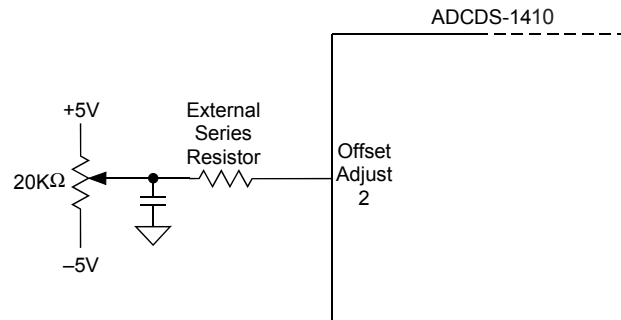
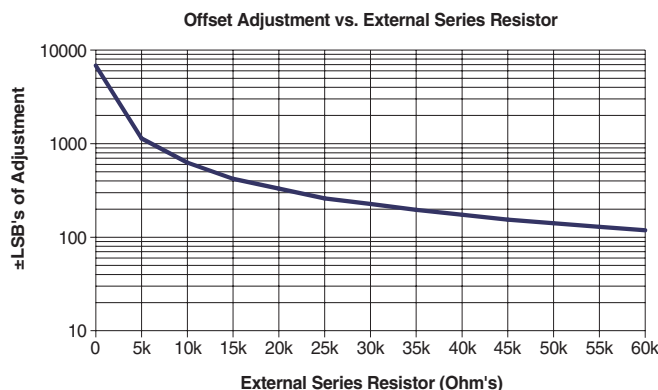

Figure 3. Offset Adjustment Circuit
Figure 6. Offset Adjustment vs. External Series Resistor
- If using the suggested offset and gain adjust circuits (Figure 3 & 5), place them as close to the ADCDS-1410's package as possible.
Manual offset adjustment for the ADCDS-1410 can be accomplished using the adjustment circuit shown in Figure 3. A software controlled D/A converter can be substituted for the 20K $\Omega$  potentiometer. The offset adjustment feature allows the user to adjust the Offset/Dark Current level of the ADCDS-1410 until the output bits are 00 0000 0000 0000 and the LSB flickers between 0 and 1. Offset adjust should be performed before gain adjust to avoid interaction. The ADCDS-1410's offset adjustment is dependent on the value of the external series resistor used in the offset adjust circuit (Figure 3). The Offset Adjustment graph (Figure 6) illustrates the typical relationship between the external series resistor value and its offset adjustment capability utilizing  $\pm 5V$  supplies.